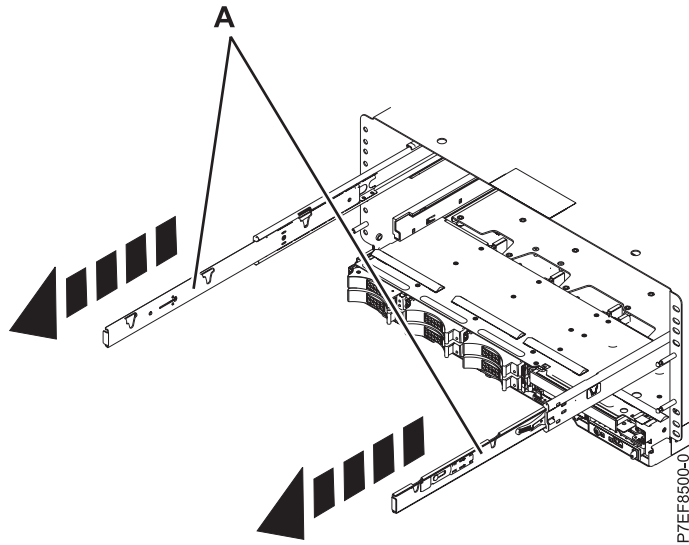

Figure 5. Sliding out the system processor assembly rails:
6. Slide both rails out of the enclosure until the slide release buttons (one on each side) lock into place (A). See Figure 5 on page 9.